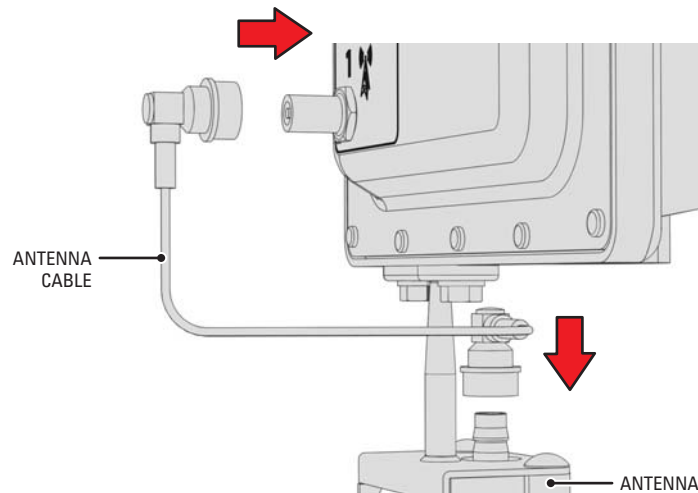

Figure 8. Connecting the Antenna Cable
- c. Connect the antenna cable to the integrated antenna and the EW5001 (refer to Figure 8).